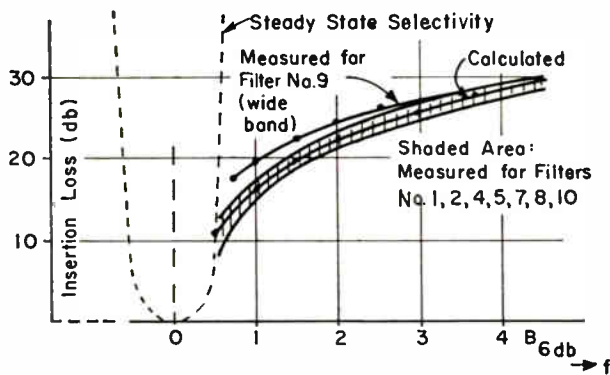

Fig. 10 (above): Transient selectivity measured on several ceramic filters falls within the shaded area; #9 does not.
sponse amplitude, Fig. 6, decreases proportionally to the steady state filter selectivity. The maximum transient response amplitude, however, decreases less sharply along a curve which might be called the "transient selectivity" of the filter. This curve is evaluated from Eq. (9) and plotted in Fig. 10. Since it is fairly symmetrical to the center frequency, only one-half of it is shown. The frequency scale is normalized to the 6 db bandwidth, and the response is referred to zero db at f_0 . A typical steady state selectivity curve is indicated with dotted lines in the same figure.
The "transient selectivity" measured on a number of ceramic filters falls—with the exception of the wide band ladder filter No. 9—within the shaded area of Fig. 10 and corresponds quite closely to the theoretical curve. The deviation of the wide band filter is due to the fact that the approximation of a constant frequency spectrum within the bandpass becomes coarser with widening bandwidth.